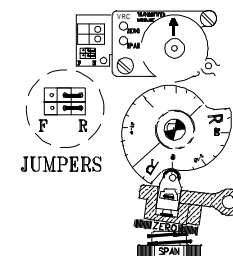

FIG. 7A
**NOTE:** The output from the TRANSMITTER MODULE is jumper selectable to give a 20 to 4 milliamp output signal with 0 to 90 degree rotation. Simply move the two (2) MODULE jumpers to the "R" position and recalibrate the ZERO pot.
**NOTE:** For Reverse acting applications, refer to Fig. 7A for proper orientation of the Transmitter Module gear. The Jumpers must be moved to the "R" selection also.